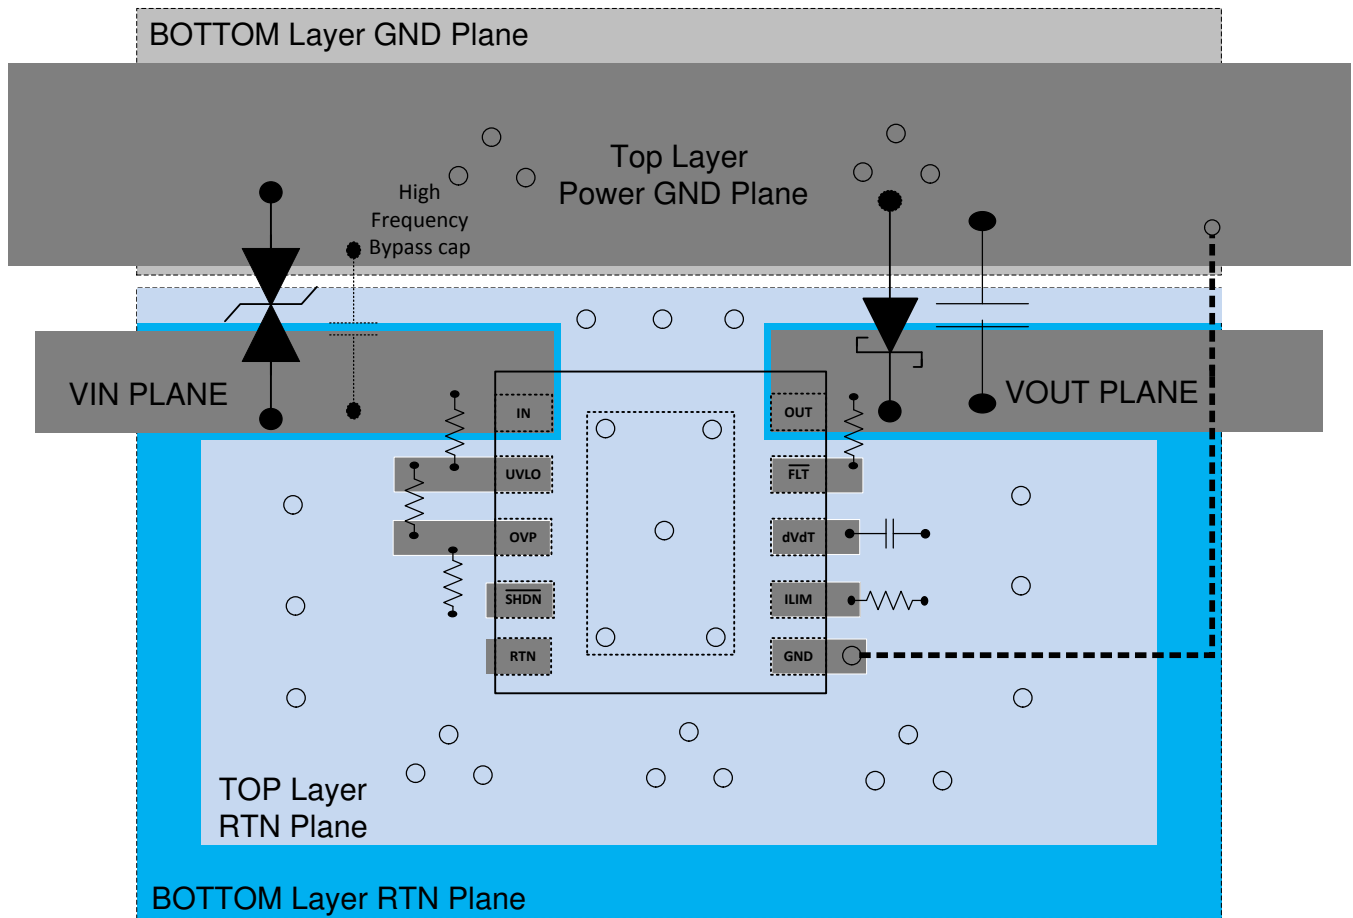

图 63. Typical PCB Layout Example With a 2 Layer PCB
- The optimum placement of decoupling capacitor is closest to the IN and GND terminals of the device. Care must be taken to minimize the loop area formed by the bypass-capacitor connection, the IN terminal, and the GND terminal of the IC. See Figure 63 for a typical PCB layout example.